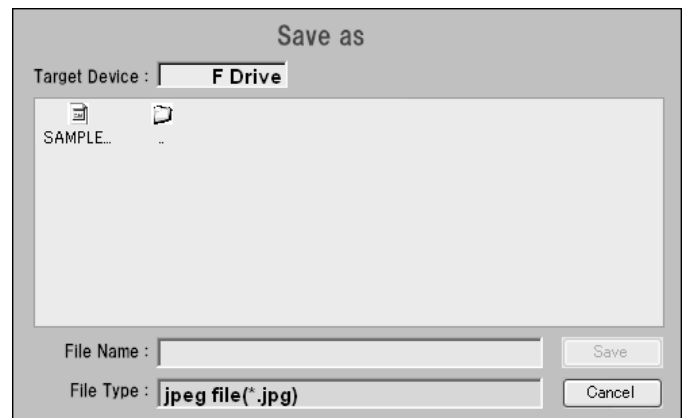

Fig.6-22 Save As screen
- ⑪ Press  to display the folders and the files in Meas_Data folder (see Fig.6-22).